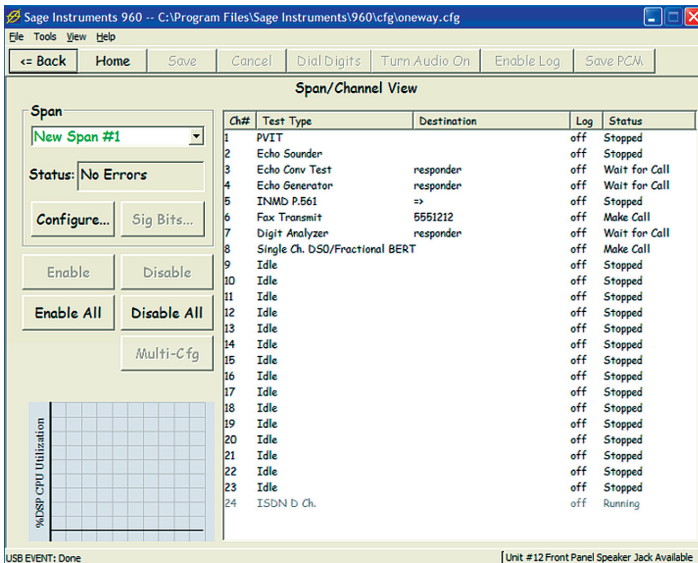

Figure 2.2.4
6. In the span window click on either PCM 1 or PCM 2. Notice that the ISDN D Channel test now shows an “Running” state on the default channel 24 or the channel you designated (see figure 2.2.4).